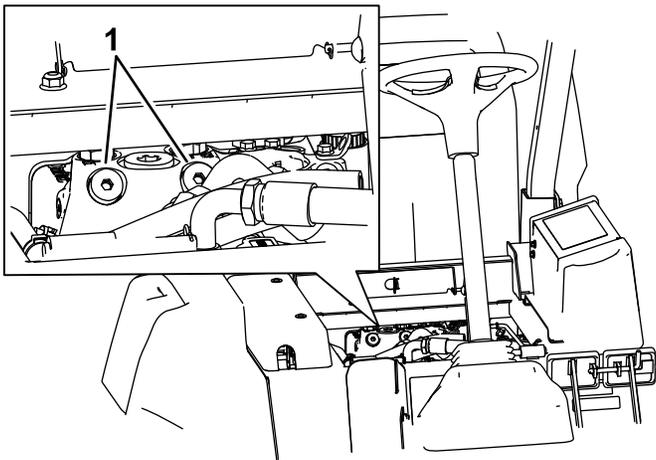

Figure 38
1. Raise the seat and locate the bypass valves, which are located below the front of the fuel tank (Figure 38).